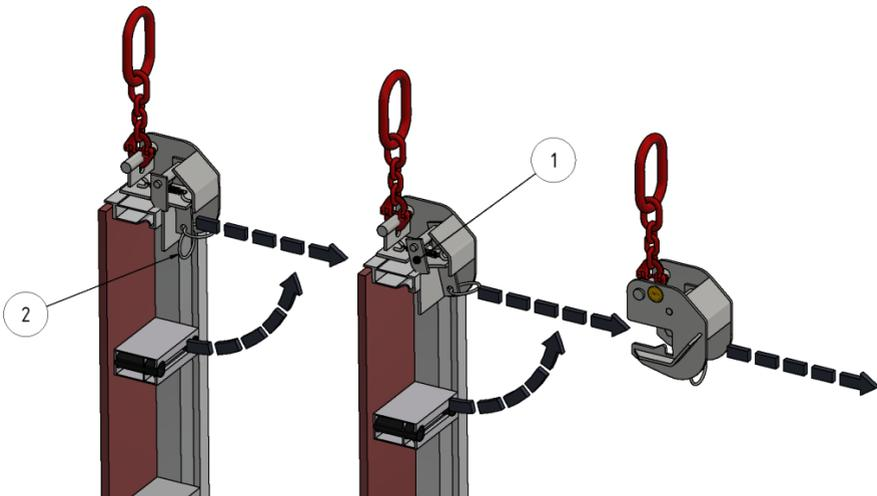

Figure 9: Detaching crane hook
The Alu-L crane hook is detached as illustrated in Fig. 9.
Pull the ring of the actuating lever (2) outward and hold it down so that the safety catch (1) is raised. Pull the crane hook back to remove it (Fig. 9).
The actuating lever (2) snaps automatically into its initial position (Fig. 9 right).